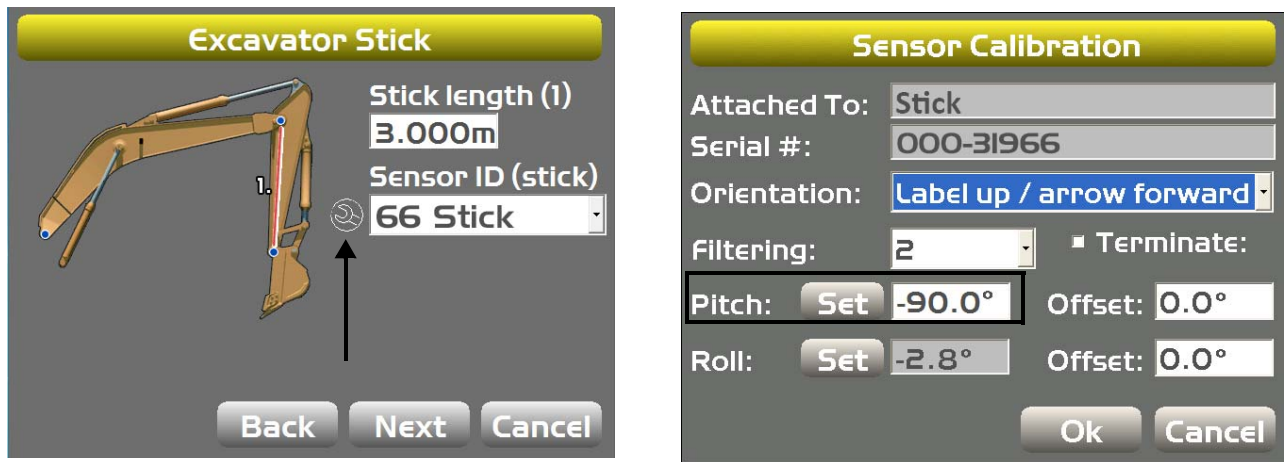

Figure 35: Set Pitch Value to -90.0
4. Tap the **Wrench** icon for the stick sensor (Figure 35 on page 30).
5. Tap **Set** next to **Pitch**, enter the **Pitch** value as -90.0° , and tap **Set** again(Figure 35).